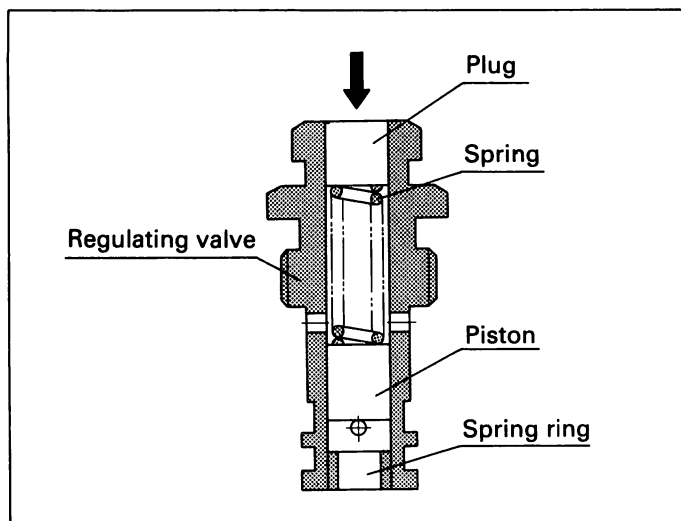

Fig. 108 Regulating valve construction
2. If the pressure is lower than the specified value, push in the regulating valve's plug using the adjusting device (157829-0820) to adjust the pressure to the specified value. (Figs. 108 and 109)